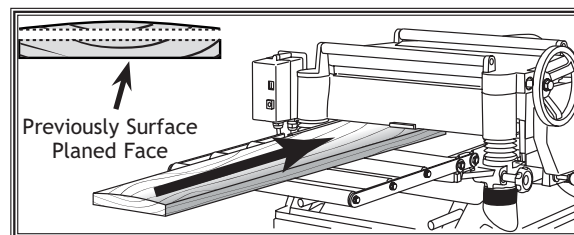

Figure 31. Surface plane on a thickness planer.
2. **Surface Plane On a Thickness Planer:** The opposite face of the workpiece is surface planed flat with a thickness planer (Figure 31).